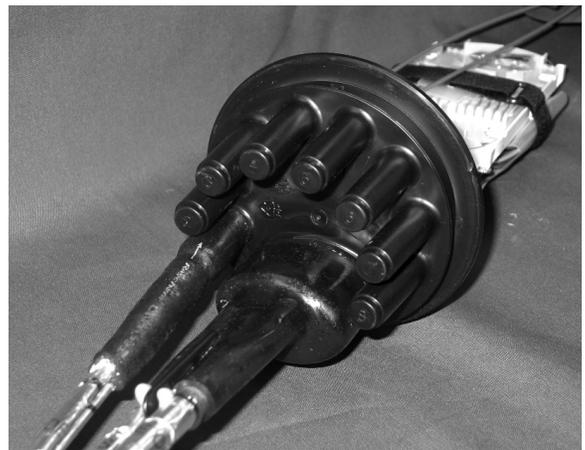

Figure 10
- Port seal fully recovered. (Figure 10)